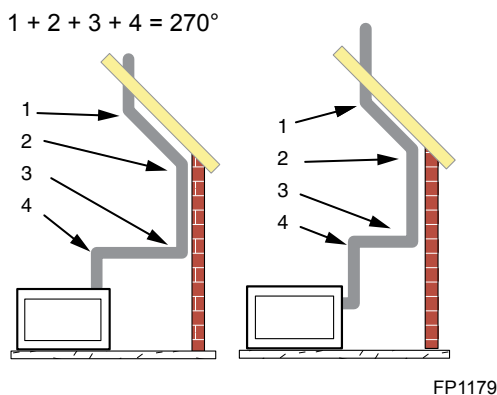

Figure 52 –
- Two sets of 45° elbow offsets may be used within the vertical sections. From 0 to a maximum of 8' (2.5 m) of vent pipe can be used between elbows. *Figure 52*
- The maximum angular variation allowed in the system is 270°. *Figure 52*